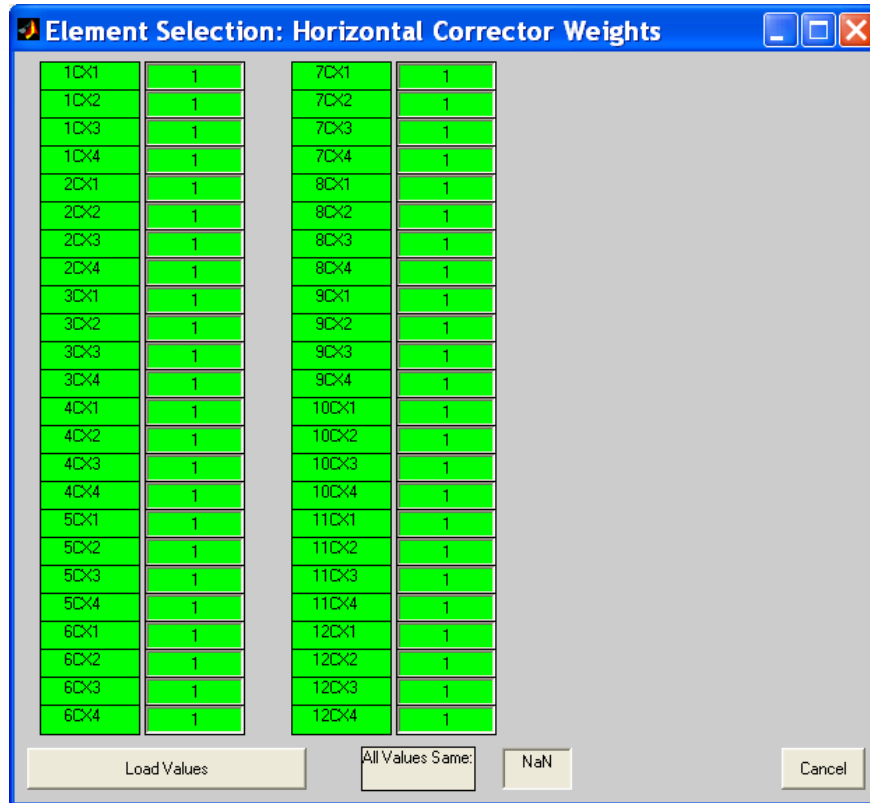

Figure 3.17 Horizontal corrector weight selection
- **Select X-Corrector Weights:** bring up a screen for horizontal corrector weight selection. A graphic of the horizontal corrector weight selection screen is given in the following Figure 3.17
- **Select Y-Corrector Weights:** brings up a screen for vertical corrector weights selection. The screen layout is identical with that in Figure 3.17.